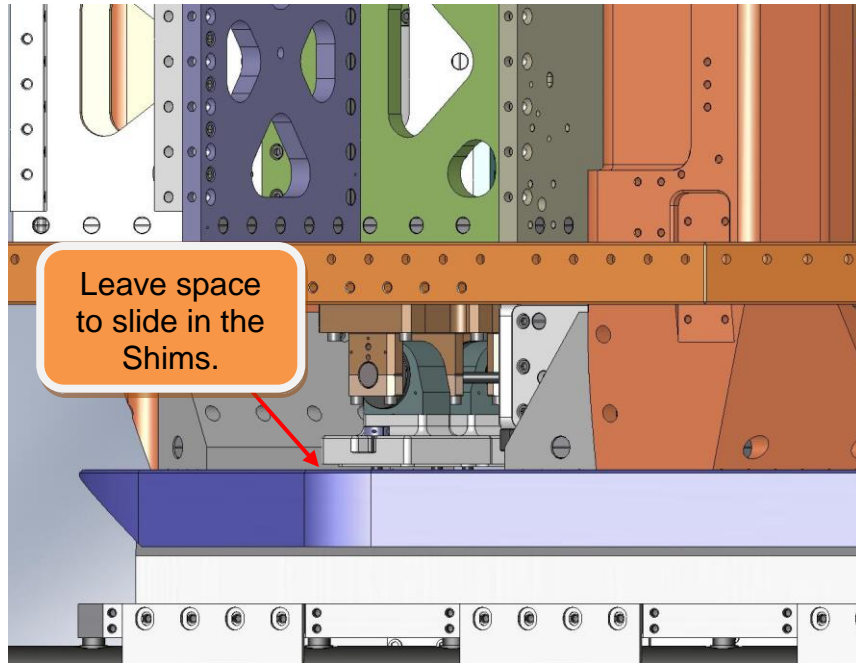

Figure 4.78. Lower Stage 1 close to its final position, but leave enough space between the Lockers and Stage 0 to slip in .125" Shims.
- Stop lowering **Stage 1** when the lowest **Locker Base** (D071140) is about 1/4" above the **Stage 0 Base** (D071001), as shown in Figure 4.78. Try to engage the (8) temporary pins in the **Locker Bases** with the mating holes in the **Stage 0 Base**, as shown in Figure 4.79.